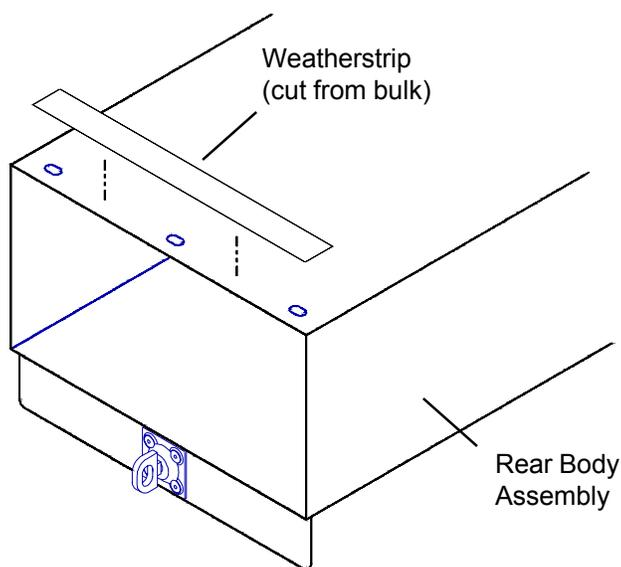

Figure 2. Weatherstripping Rear Body Assembly
1. Cut and adhere Weatherstripping over the Door Stop mounting holes on the Rear Body Assembly (see Figure 2).